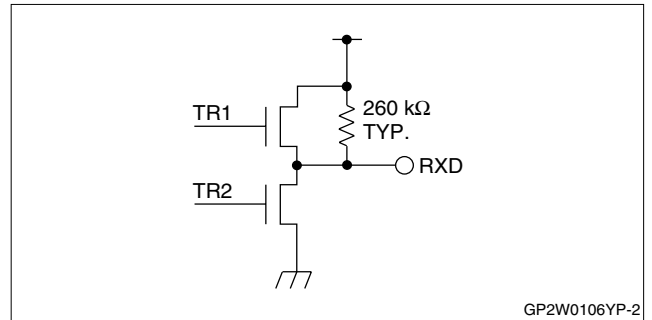

Figure 2. RXD Equivalent Circuit
- RXD pinout is a pullup (260 kΩ TYP.) to VDD in shut-down mode. See Table 1 and Figure 2.